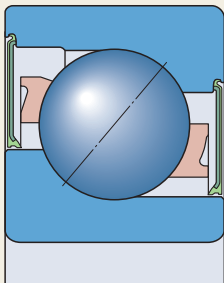

Fig. 9
- shields (designation suffix 2Z, fig. 9)